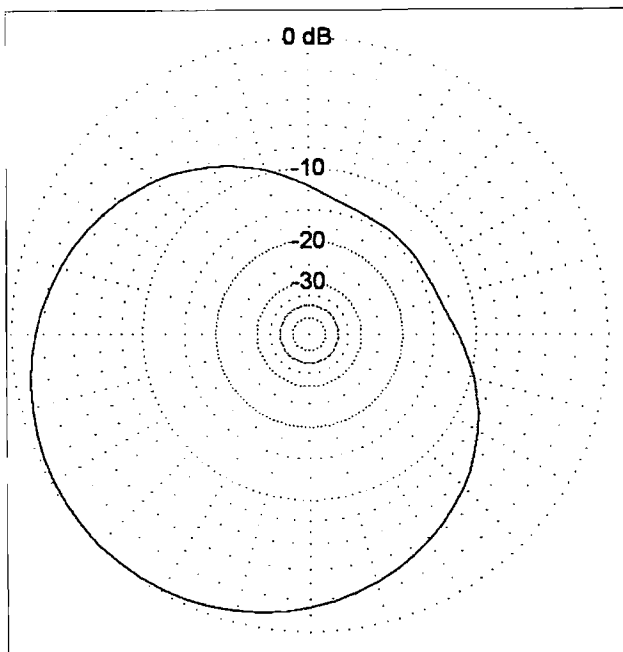

Fig. 4. With reactive termination of the switched-off whips, the amplitude pattern is even worse than for the grounded case.
9.5 ohm resistor and 53 nanohenry inductor from the base of each parasitic whip to ground plane. Plugging that into the EZNEC analysis gives the pattern of **Fig. 4**. Wow, there is over 14.1 dB variation, even worse than the shunt diode case!